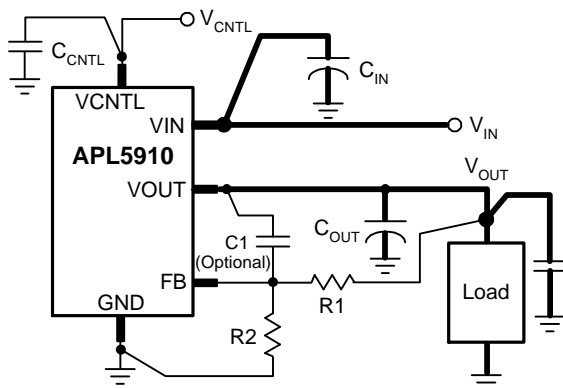

Figure 1
## Layout Consideration (See figure 1)
6. Large current paths, shown by bold lines on the figure 1, must have wide tracks.